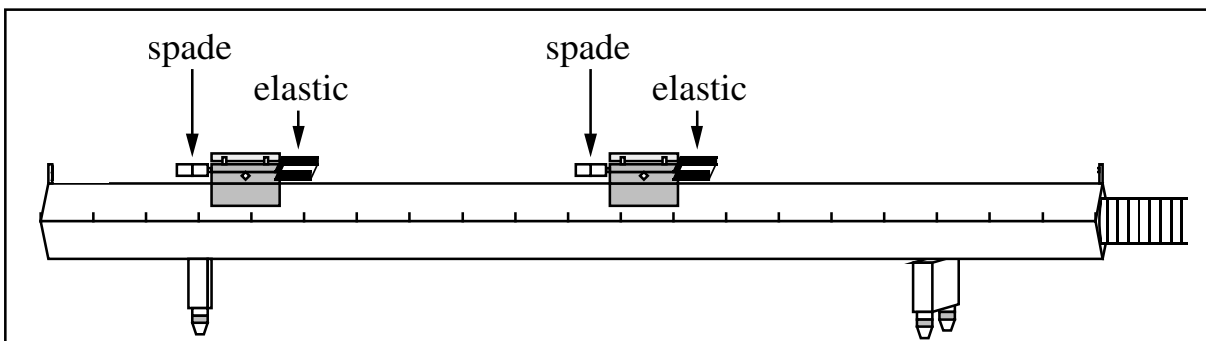

Figure 2: Sketch of the glider configuration for elastic collisions.
1. Affix spade and elastic to both gliders (see Fig. 2); add masses to one glider (henceforth “Glider #1”). Measure the mass of each glider, and the uncertainty in each measurement. Record your data in a spreadsheet. Specify units for all data.